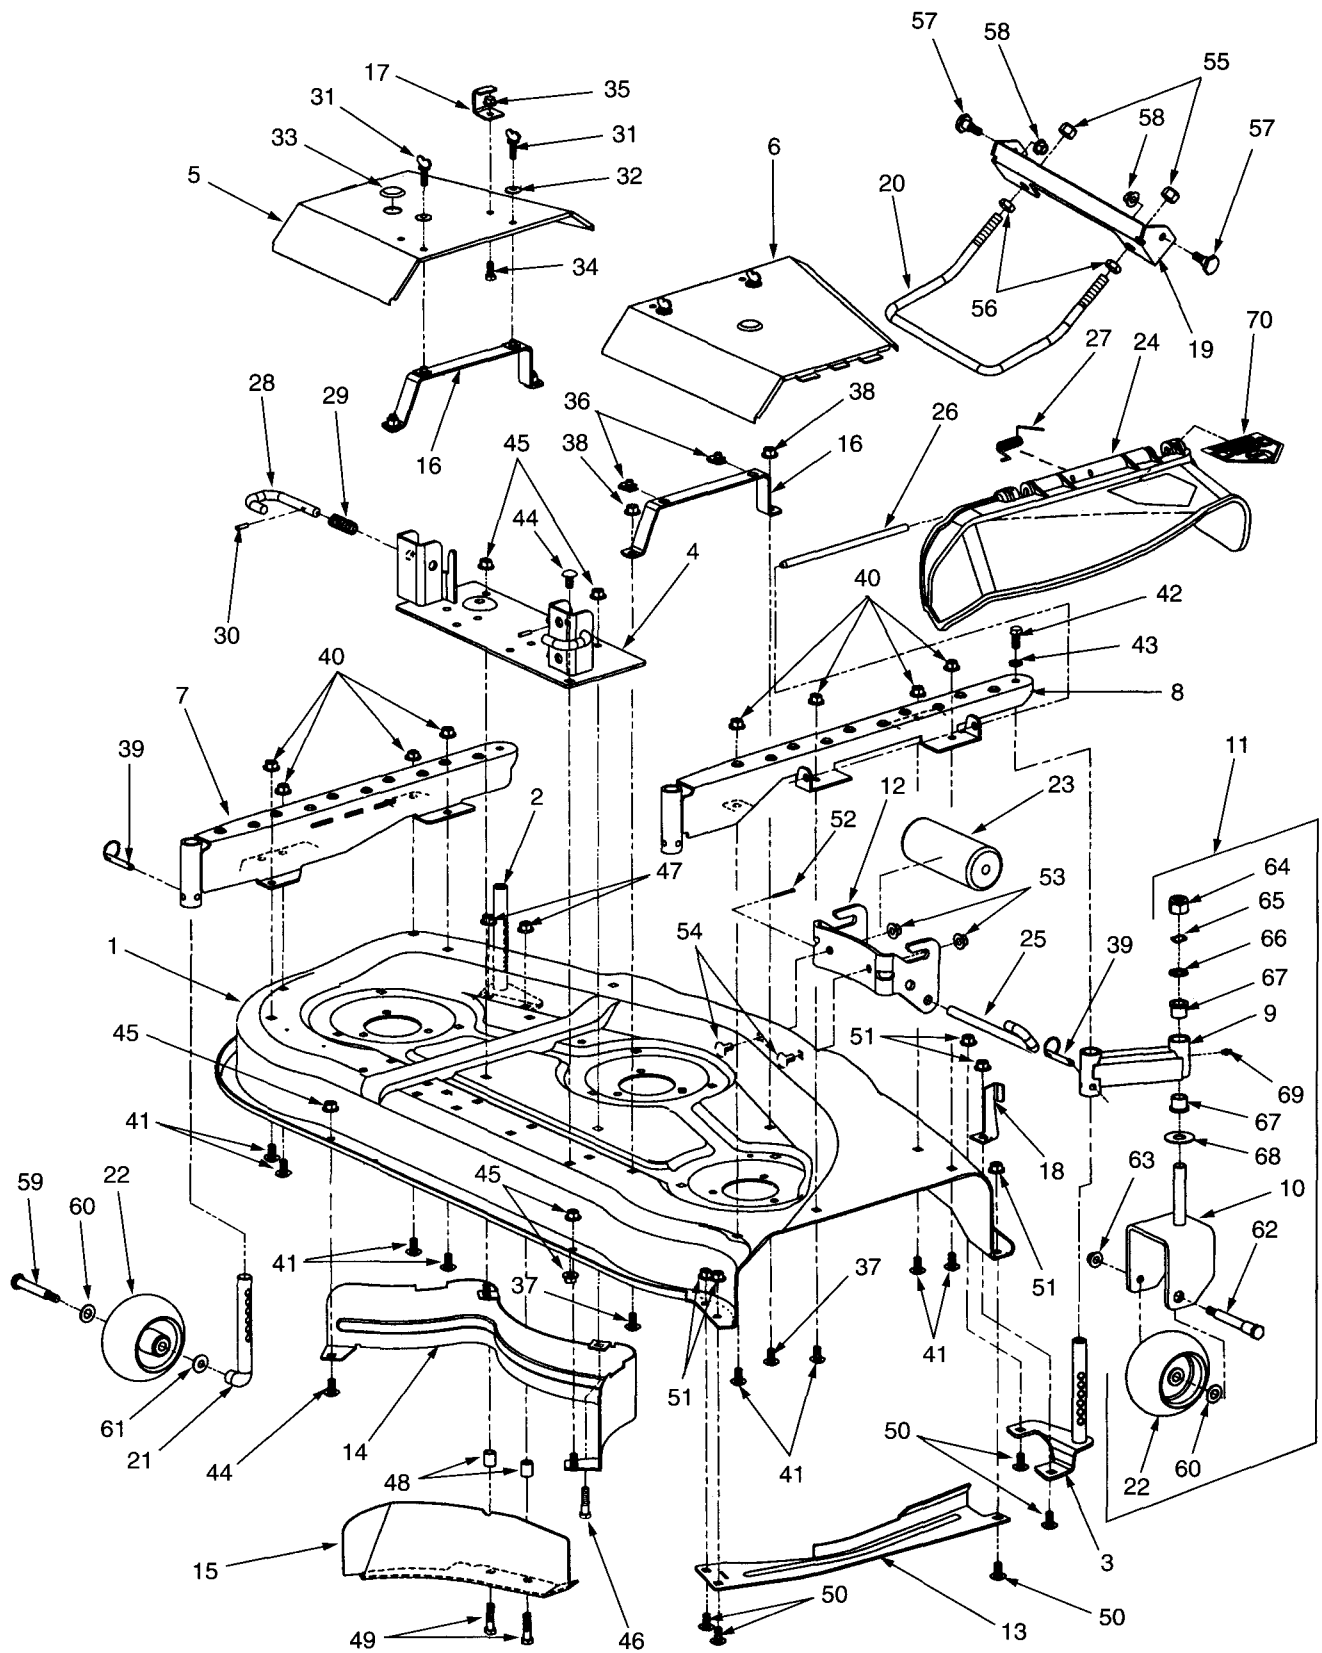
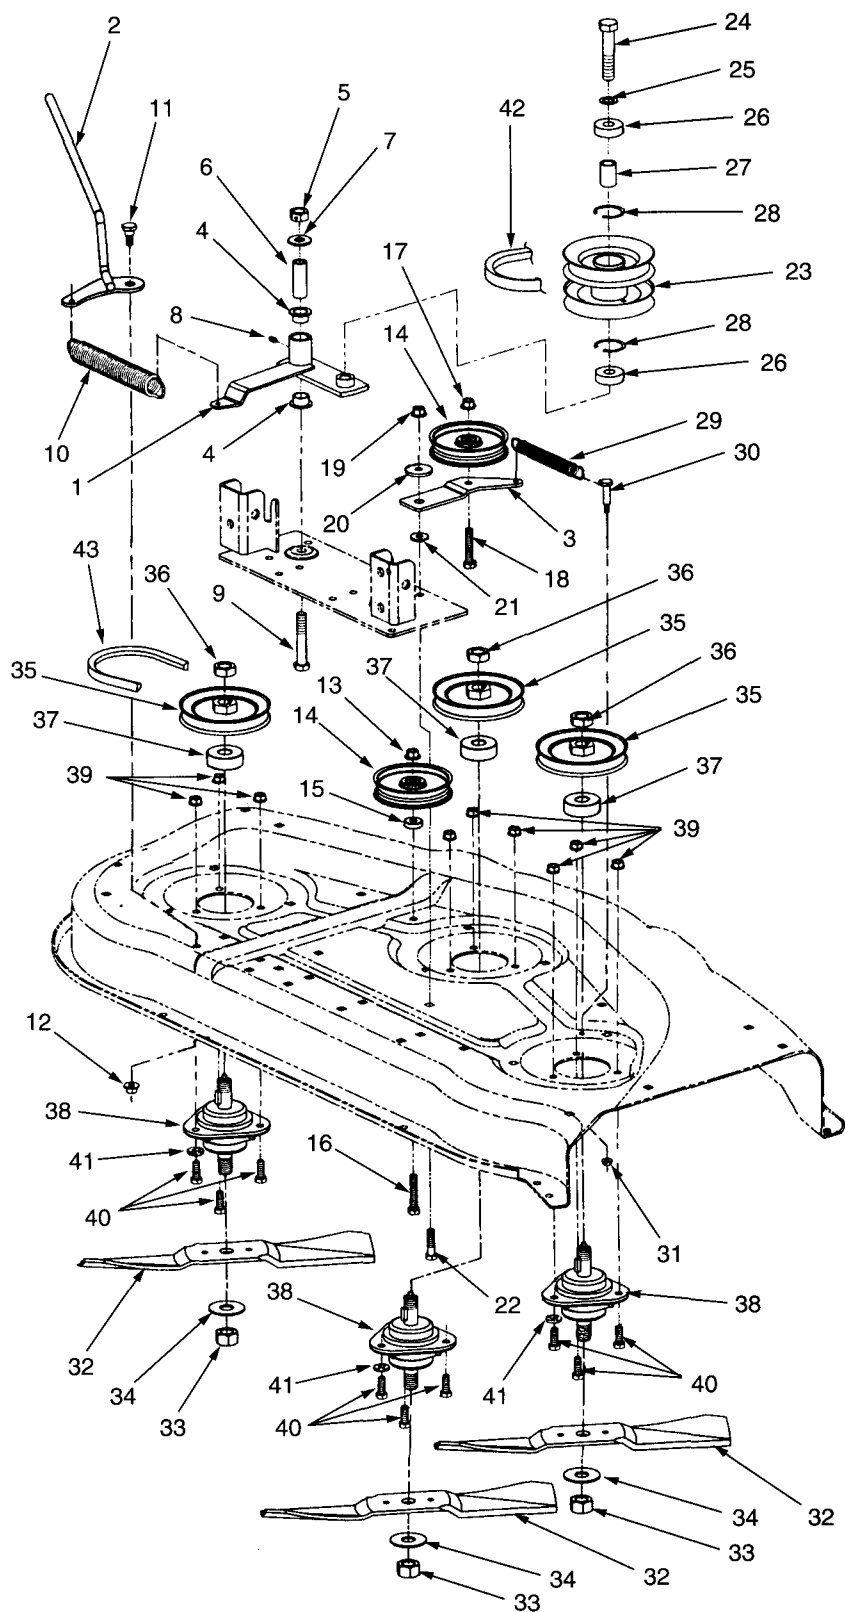

Figure 5-53. Deck and Attachments (Model 190 - 301 Mower Deck).
Figure 5-54. Deck Drive Components (Model 190 - 301 Mower Deck).
Remove the mower deck from the tractor (see Owner's Manual for correct procedure) and thoroughly clean the entire deck before beginning any repair procedures. Remove the front lift rod/lift bracket (19 and 20, Fig. 5-53) assembly from the tractor frame.
1. If not done previously, release the tension handle (2, Fig. 5-54) from the handle stop bracket (17, Fig. 5-53), and also remove the PTO belt (42, Fig. 5-54) from the PTO clutch.
2. Remove the LH belt cover (5, Fig. 5-53) by removing the two thumb screws (31) and bell washers (32), then sliding the cover inward to separate the three locking tabs from the LH caster channel (7).
3. Note the position of the handle stop bracket (17, Fig. 5-53), then remove the bracket from the LH belt cover by removing the hex cap screw (34) and hex flange lock nut (35). Pull the button plug (33) from the cover.
4. Remove the RH belt cover (6, Fig. 5-53) by removing the two thumb screws (31) and bell washers (32); then sliding the cover inward to separate from the RH caster channel (8). Pull the button plug (33) from the cover.
Never operate the mower deck without the deflector chute assembly (34, Fig. 5-53) installed and in the down position.
To ensure correct re-installation of the deflector chute (24, Fig. 5-53), note the direction of the coil windings and the position of the spring ends before removing the hinge pin (26) and torsion spring (27).
9. Remove the deflector chute (24, Fig. 5-53) as follows:
- a. Raise the deflector chute and slightly deflect the chute to access the rear end of the hinge pin (26).
- d. While holding the chute and torsion spring (27) in place, pull the hinge pin from the deflector chute.
- e. Carefully lift the chute from the RH caster channel (8) and remove the torsion spring.
10. Pull the clevis pins w/detent ball (39, Fig. 5-53) from the rear of the LH and RH caster channels (7 and 8), and remove the rear deck axle/ball wheel assemblies (21 and 22).
11. Remove the caster wheel assemblies (11, Fig. 5-53) as follows:
- a. Remove the hex cap screw (42) and lock washer (43) from the front end of both the LH and RH caster channels (7 and 8).
- b. Remove the four hex flanged lock nuts (40) and carriage bolts (41) fastening each caster channel to the deck housing and remove the LH and RH caster channels (7 and 8).
- c. Pull the clevis pins w/detent ball (39) from the front casters (9) and slide the caster wheel assemblies (11) off the LH and RH caster spindles (2 and 3).
For reassembly purposes, note the hex cap screw (22, Fig. 5-54) fastening the idler arm (3) to the mounting plate (4, Fig. 5-53) is the same hex cap screw (46, Fig. 5-53) that fastens the front right mounting tab of the rear inner baffle (14, Fig. 5-53) to the underside of the deck.
12. Remove the idler arm (3, Fig. 5-54), flat idler pulley (14), and shoulder spacer (20) as an assembly by removing the hex flanged lock nut (19), hex cap screw (22), and flat washer (21). Separate the shoulder spacer from the idler arm.
Legend For Figure 5-53.
13. Remove the rear inner baffle (14, Fig. 5-53) from the underside of the deck by removing the three hex flanged lock nuts (45) and carriage bolts (44). Note the front/left carriage bolt also secures the mounting plate (4).
14. Remove the mounting plate (4, Fig. 5-53), double pulley pivot arm (1, Fig. 5-54), and double pulley (23, Fig. 5-54) as one assembly by removing the remaining two hex flanged lock nuts (45, Fig. 5-53) and carriage bolts (44).
15. Remove the fixed flat idler pulley (14, Fig. 5-54) and spacer (15) from the deck housing (1, Fig. 5-53) by removing the hex cap screw (16) and hex flanged lock nut (13).
Some early production decks may not be equipped with the front deck baffle (15, Fig. 5-53), spacers (48), and hex cap screws (49). Refer to Service Bulletin CC-276.
16. Remove the LH caster spindle (2, Fig. 5-53), front deck baffle (15), and spacers (48) by removing the hex flanged lock nuts (47) and hex cap screws (49).
17. Note the location of the of the chute deflector stop (18, Fig. 5-53), then remove the RH caster spindle (3) and chute deflector stop (18) by removing the hex flanged lock nuts (51) and carriage bolts (50).
18. Remove the finger guard (13, Fig. 5-53) from the bottom of the deck housing by removing the three hex flanged lock nuts (51) and carriage bolts (50).
19. Pull the two U-nuts (36, Fig. 5-53) from each mounting strap (16).
20. Remove the two mounting straps (16, Fig. 5-53) from the deck housing by removing the hex flanged lock nuts (36) and carriage bolts (37).
21. Remove the cotter pin (52, Fig. 5-53) and withdraw the roller pin (25) to remove the front roller (23).
22. Remove the front roller bracket (12, Fig. 5-53) by removing the hex flanged lock nuts (53) and carriage bolts (54).